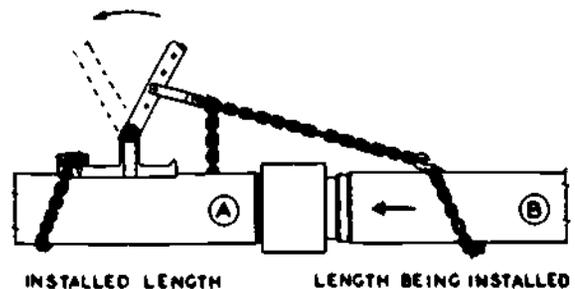

Figure 1-76. Lever Puller
a) The lever puller shown in Figure 1-76 is used to pull pipes together. It is chained to installed pipe A, the puller chain is wrapped around length B being installed, and the handle is then pulled forward to pull the pipe into the coupling.